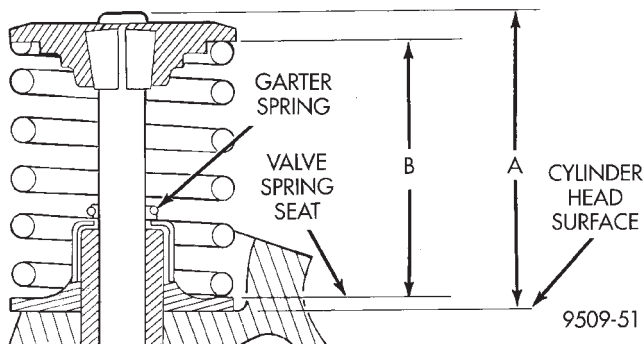

Fig. 53 Checking Spring Installed Height and Valve Tip Height Dimensions
(4) Check the valve spring installed height B after refacing the valve and seat (Fig. 53). Make sure measurements are taken from top of spring seat to the bottom surface of spring retainer. If height is greater than 38.75 mm (1.525 in.), install a .762 mm (0.030